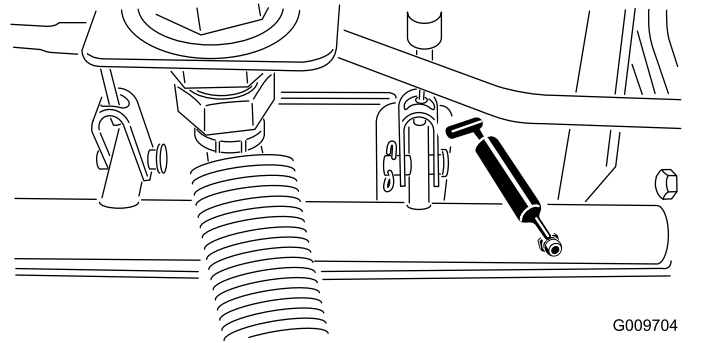

Figure 74
- Brake-shaft pivot bearings (5) as shown in Figure 74